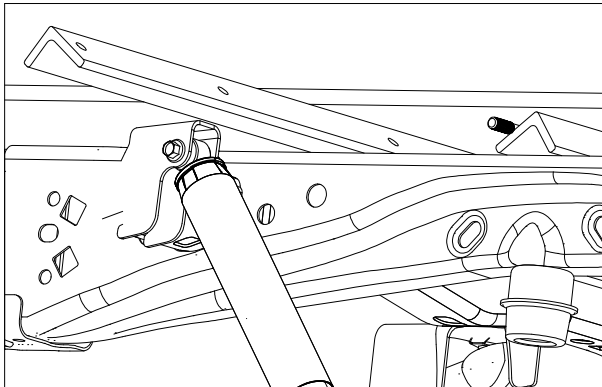

Figure B2: View looking into driver side wheel well.
2. **Place forward cross member.** Select the second cross member without notches and place it between the bed and frame, by pushing it through the opening in the wheel well on the driver side of the truck, see Figure B2. With the two cross members approximately parallel, position them about 9" apart, spaced in front and behind the hole in the truck bed floor and hanging over the same distance on each side of the frame rails.